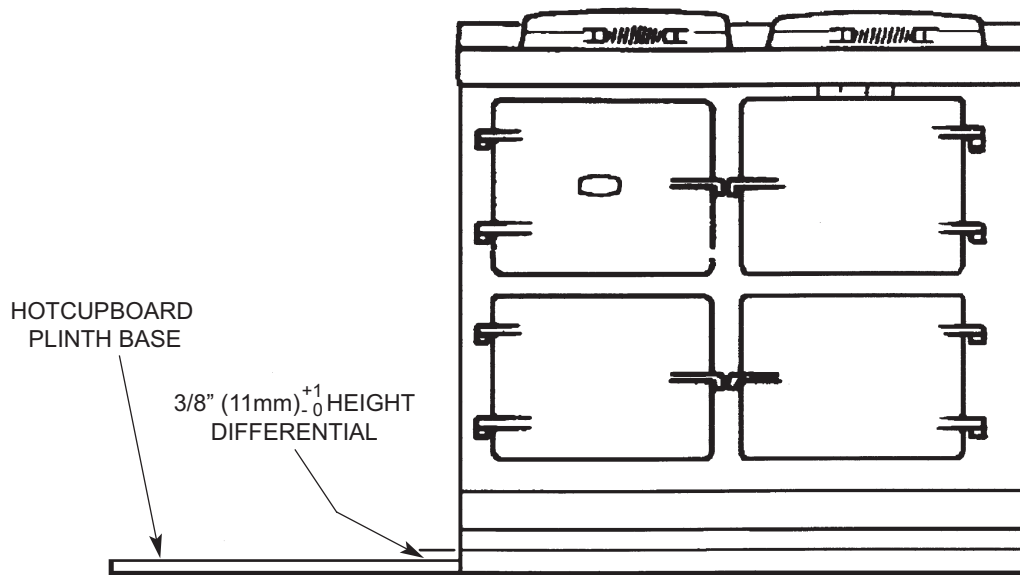

Fig. 16
2. Position the plinth alongside the AGA Dual Control leaving no gap between the two plinths (See Fig. 16).